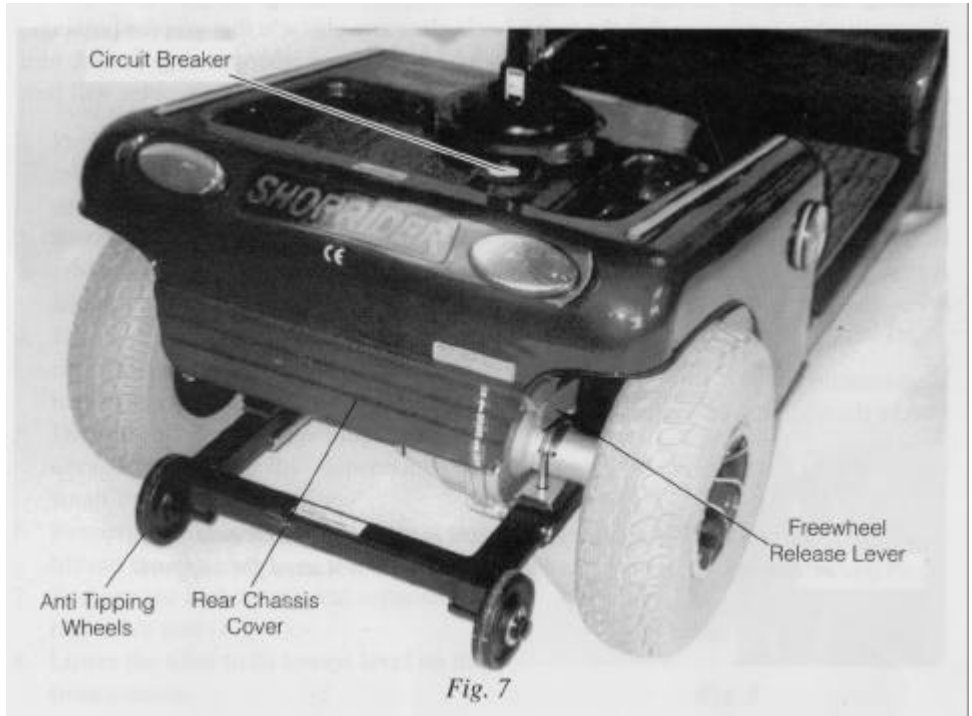

Fig. 7
SCOOTER TILLER CONTROLS (Fig. 7)
FREE WHEEL OPERATION (Fig. 7)
The anti tipping wheels are located at the rear of the scooter (Fig. 7). The scooter should not be used unless the anti-tipping wheels are in place.
4. Remove the rear chassis cover, taking care to remove the lights plug and the battery charger plug (Fig. 7).
Circuit Breaker (*Fig. 7*)